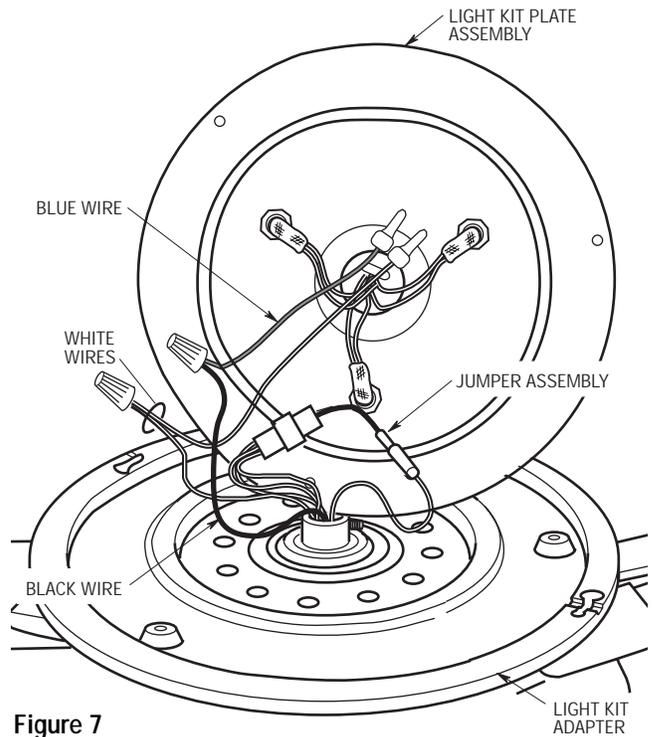

Figure 7
- 14. Pass the connectors and wires from the motor shaft through the light kit adapter collar (Figure 7) in the following sequence:
- 16. Securely connect the jumper assembly (supplied) connectors to the four-pin connector and the one-pin connector from the motor shaft (Figure 7).
- 17. Securely connect the black wire from the light kit plate assembly to the blue wire from the motor shaft using a wire connector (supplied) (Figure 7). Connect the white wire from the plate assembly to the white wire from the motor shaft using a wire connector (supplied).